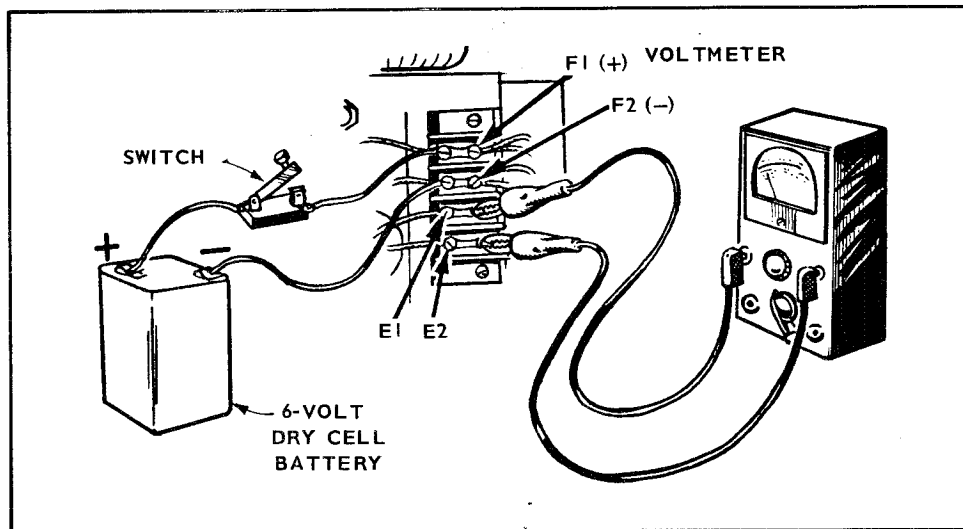

FIGURE 4-5. FLASHING THE FIELD
*Restoring Residual Magnetism: Flashing the field (Figure 4-5)*
#### AUTOMATIC FIELD FLASHING (Figure 4-5)